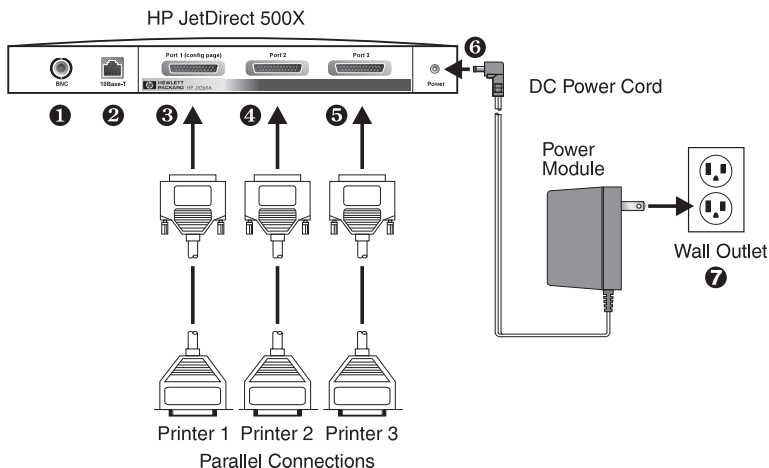

Figure 2.2 Hardware connections using a U.S. power module for the HP JetDirect J3265A Print Server
In the following steps, the circled numbers correspond to those in Figure 2.2. The HP JetDirect 300X, 170X, and EX Plus have one printer port ③. The HP JetDirect 500X Token Ring and 300X have no BNC port ①. On the HP JetDirect 500X and 300X, the RJ-45 connector ② is used for either 10 or 100 Mbps operation. The JetDirect 170X has no BNC port ①.
5. Connect the print server to the network ① or ②.
6. Connect the print server to the printer(s) ③, ④, and ⑤.